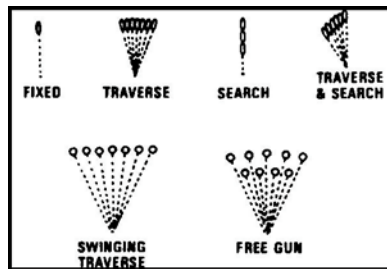

Figure 4. Traversing and searching.
- c. Traverse the target area with a bipod- mounted M60 machine gun by selecting successive aiming points (Figure 4).
- d. Search the target area by selecting successive aiming points, changing elevation by moving your elbows closer together or farther apart (Figure 4).